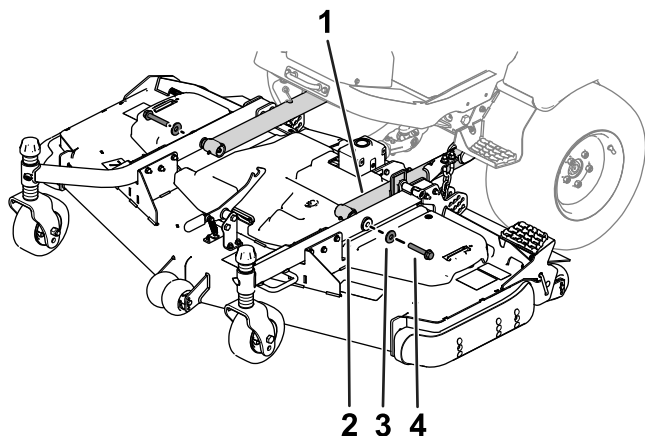

Figure 5
7. Use 2 hex-head bolts and 2 washers to secure the castor arms to the lift arms (Figure 5).